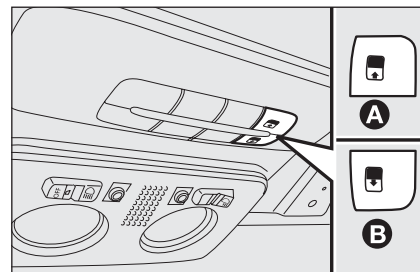

fig. 77
To close them reverse the above procedure. Sunroof only works with ignition key at **MAR**. Controls **A** and **B**-fig. 77 set on the special panel near the ceiling light shall be used to open/close the sunroof.
Press button **B**-fig. 77 and hold down to move the front glass panel to spoiler position. Press button **B** again and hold down the control for longer than half a second to start the movement of the sun-roof glass, which will continue automatically to an intermediate position (“Comfort” position).
When in fully opened position, press button **A**-fig. 77 and if the button is operated for longer than half a second, the roof front glass will automatically move to intermediate position (“Comfort” position).
- ☐ Press button **A**-fig. 77 until the roof is fully closed. Release the button;